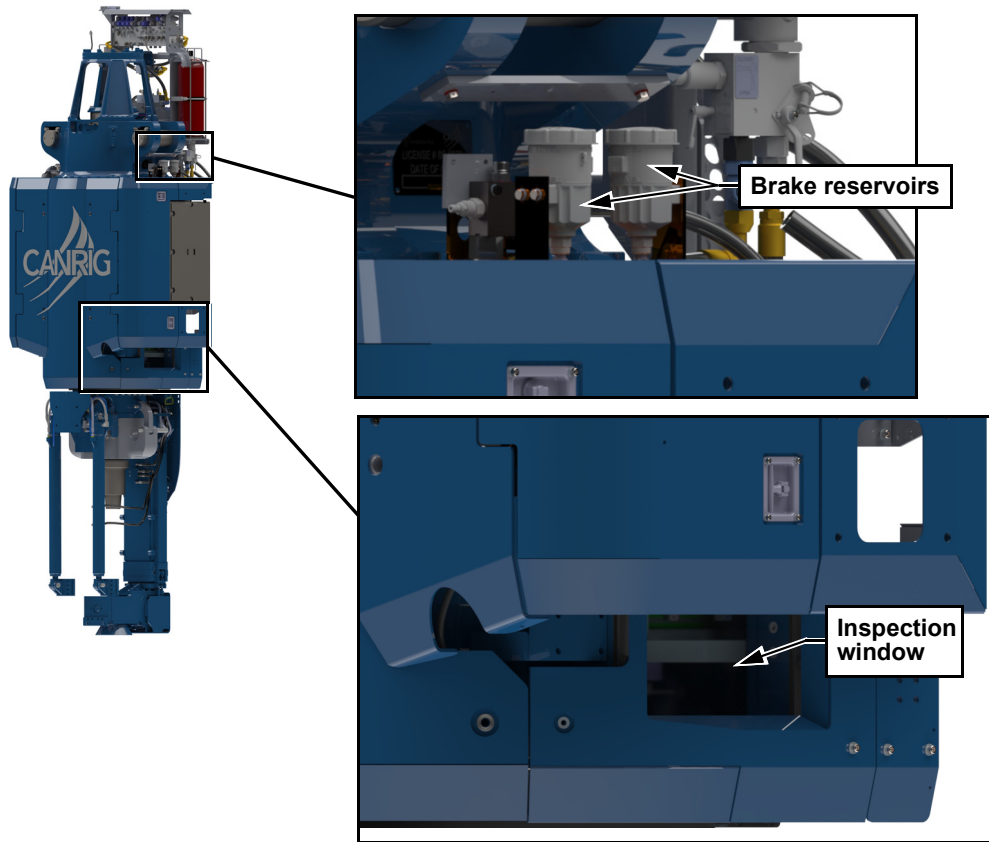

Figure 1: Brake reservoirs and inspection window
- Perform a daily visual inspection of the brake fluid reservoirs. Large changes in the fluid level may indicate a leakage or increased wear. See Figure 1 on page 2.
- Perform a weekly visual inspection of the brakes (DS and ODS) for obvious contamination from wear, see Figure 1 on page 2.